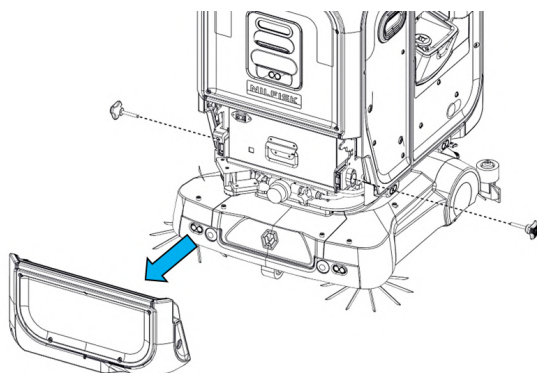

FIGURE 14-1
1. Remove the bottom front cover by unscrewing the 2 Front Cover Knob **(16)** until it can be removed as shown **(Fig. 14-1)**.